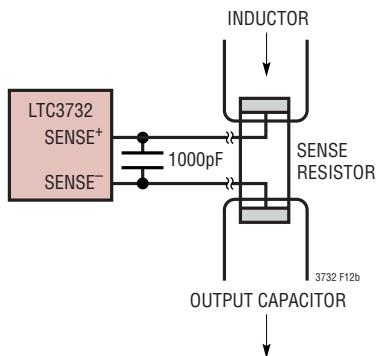

Figure 12. Kelvin Sensing R_{SENSE}
3) Are the SENSE⁻ and SENSE⁺ printed circuit traces for each channel routed together with minimum PC trace spacing? The filter capacitors between SENSE⁺ and SENSE⁻ for each channel should be as close as possible to the pins of the IC. Connect the SENSE⁻ and SENSE⁺ pins to the pads of the sense resistor as illustrated in Figure 12.